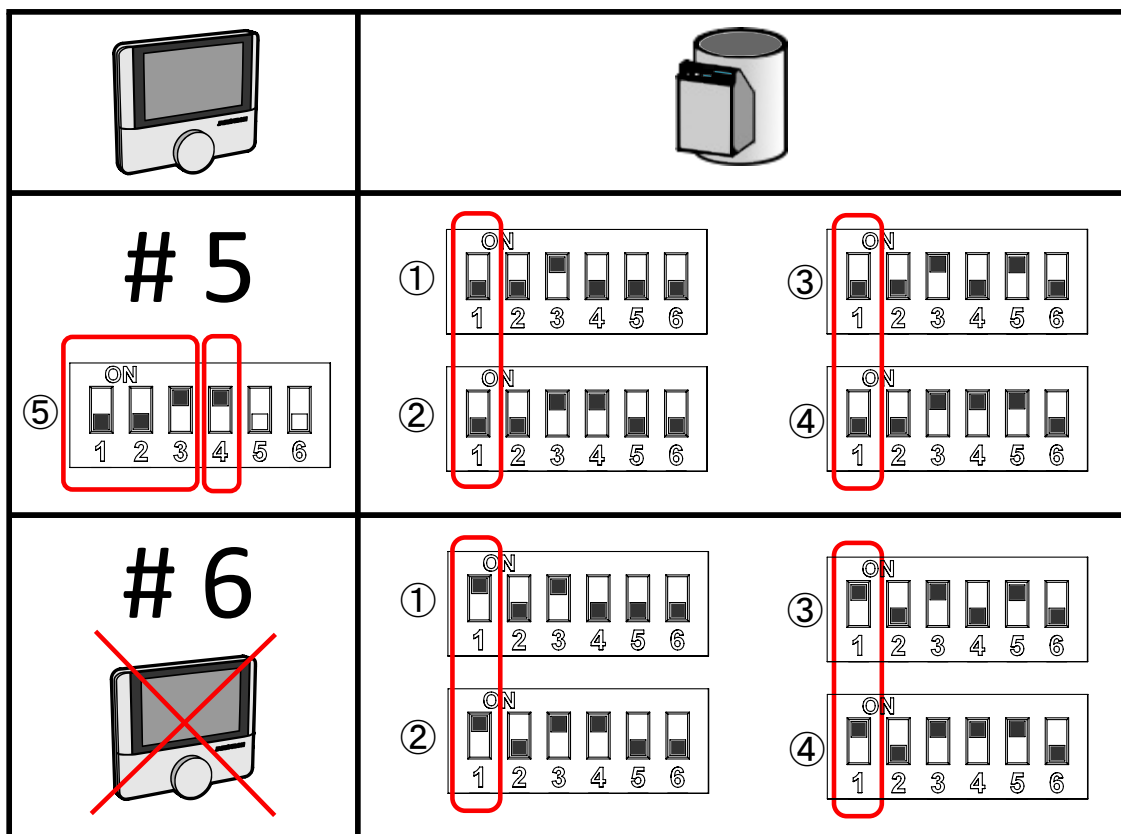

Figure 29 – Supply Example: Zone five, extended to up to 8 dampers, supply.
- **Analog input IN1 and IN2 (0 - 10 V)** - It is used to control the unit's power in Auto Mode. It is possible to set a linear dependence of the unit's output based on the input voltage. The input voltage ranges from 0 to 10 V. **Note:** Some systems are not able to supply voltage from 0 V. In this case we recommend to set the linear dependence starting at 1 V (see Fig. 29). This setting however will not stop the system entirely! The minimum power level at 0 V of input voltage corresponds to 1% of the power, which is about 65 m3/h for size M and about 110 m3/h for size L.